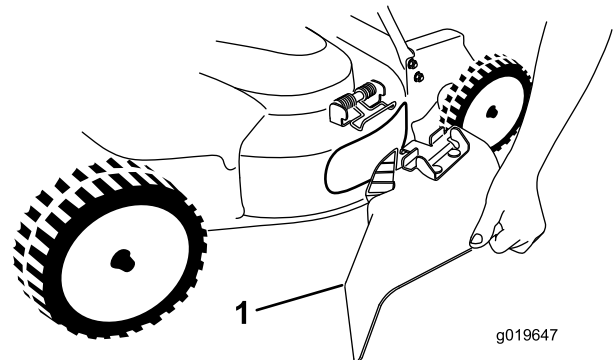

Figure 27
5. Install the side-discharge chute (Figure 27) by pulling up on the spring, placing the chute over the opening, and lowering the spring over the tabs on top of the discharge chute.